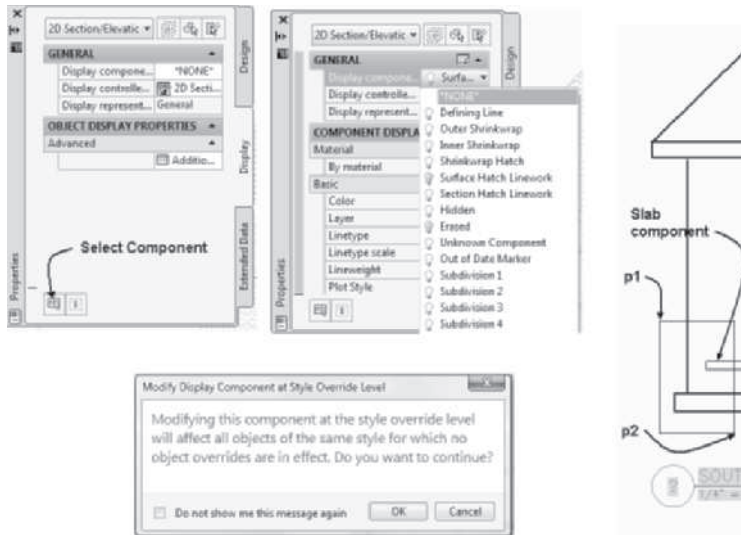

FIGURE 12.72 Slab component displayed in elevation
17. In this step the display of surface hatch will be turned off to enhance editing. Select the South Elevation, right-click, and choose Properties. Choose the Display tab of the Properties palette. Click the **Select Component** button, shown in Figure 12.72, of the Display tab. Select the brick surface hatch of the elevation. In the Display component field toggle off the light bulb for the Surface Hatch Linework component as shown in Figure 12.72. Choose OK in the Modify Display Component at Style Override Level to apply the setting to the 2D Section/Elevation style.
Specify first corner: (Select a point near p1 as shown in Figure 12.72.)
Specify opposite corner: (Select a point near p2 as shown in Figure 12.72.)